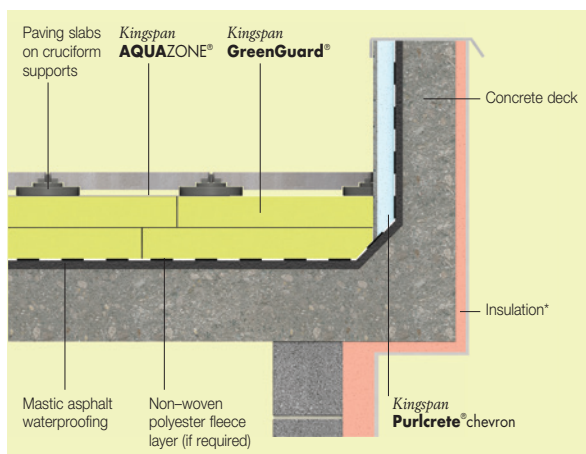

Figure 7 – Eave / Gutter Detail
- Where a parapet construction is not used, to achieve best performance, the roof insulation should overlap the wall to extend the thermal bridge path, if necessary by adding thermal insulation to edge beams to achieve continuity with external insulation (see Figure 7).